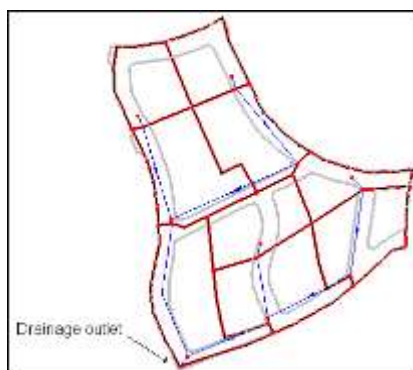

Figure 2 Drainage basins and streams for the subdivision
Figure 2 shows how the layout should look.
12. Double-click on the node labeled “Drainage Outlet” in Figure 2.